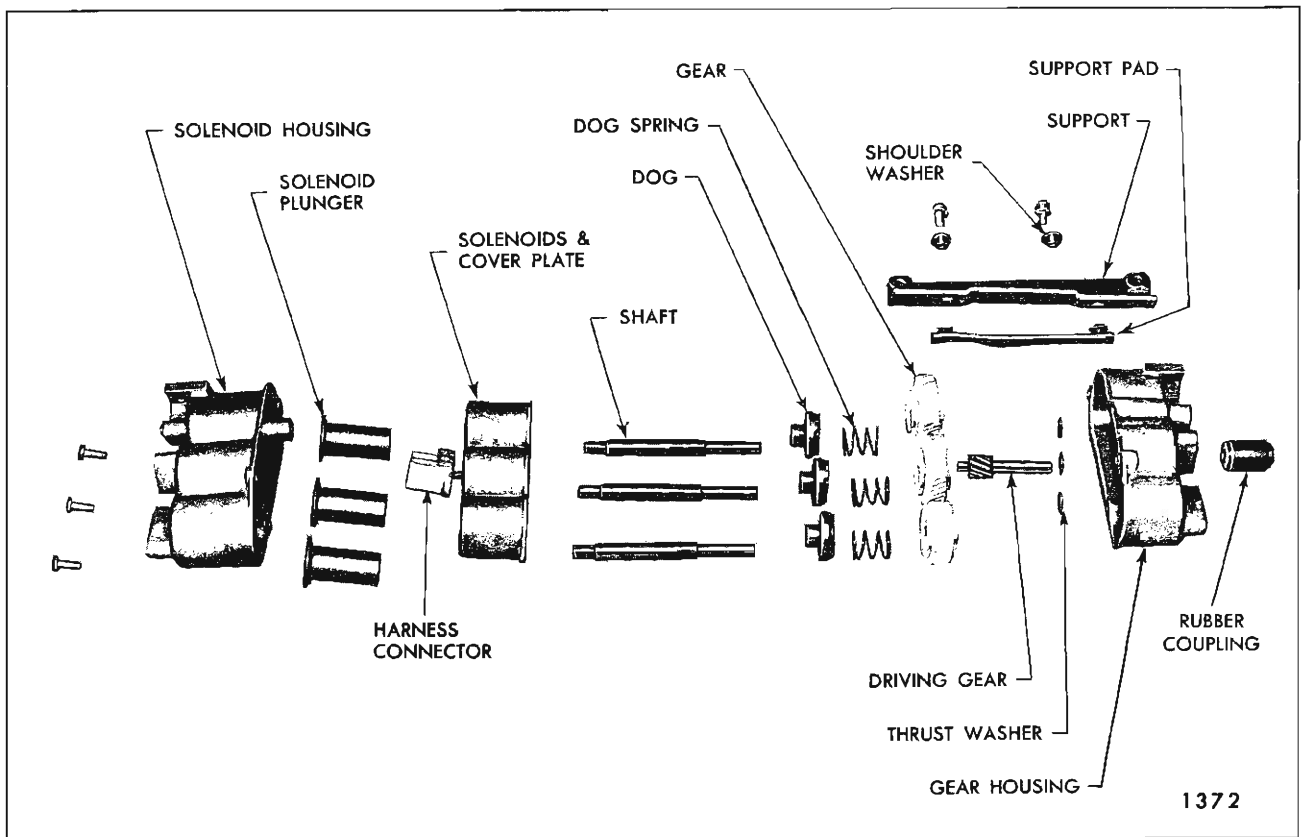

Fig. 15-21—Six-way Seat Adjuster Transmission - "B & C" Full Width Seat
- Remove screws securing rear gear housing to the solenoid housing; then, carefully separate housings and remove component parts of transmission assembly (Fig. 15-21).